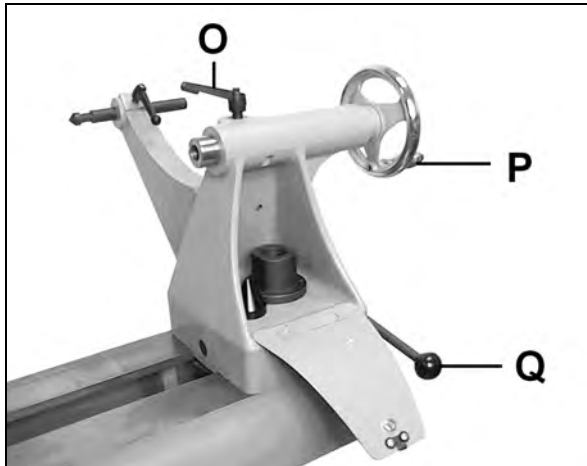

Fig 34
Turn the hand wheel (P, Fig 34) clockwise to move tailstock spindle forward. Lock tailstock spindle with the indexable knob (O).